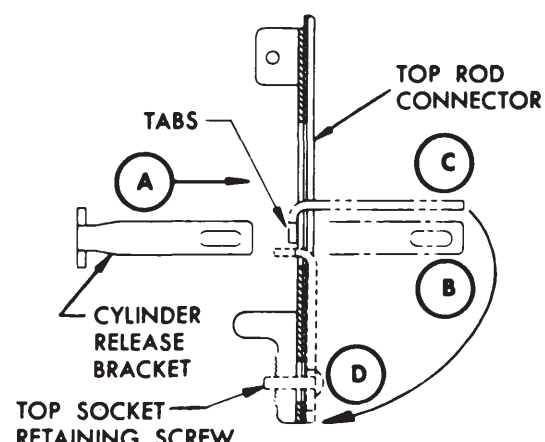

FIG. 2C
C. Install cylinder release bracket on 5547NL device only. Note that handing stamped on bracket corresponds with handing of door. (See Fig. 2C) (Supplied with trim)